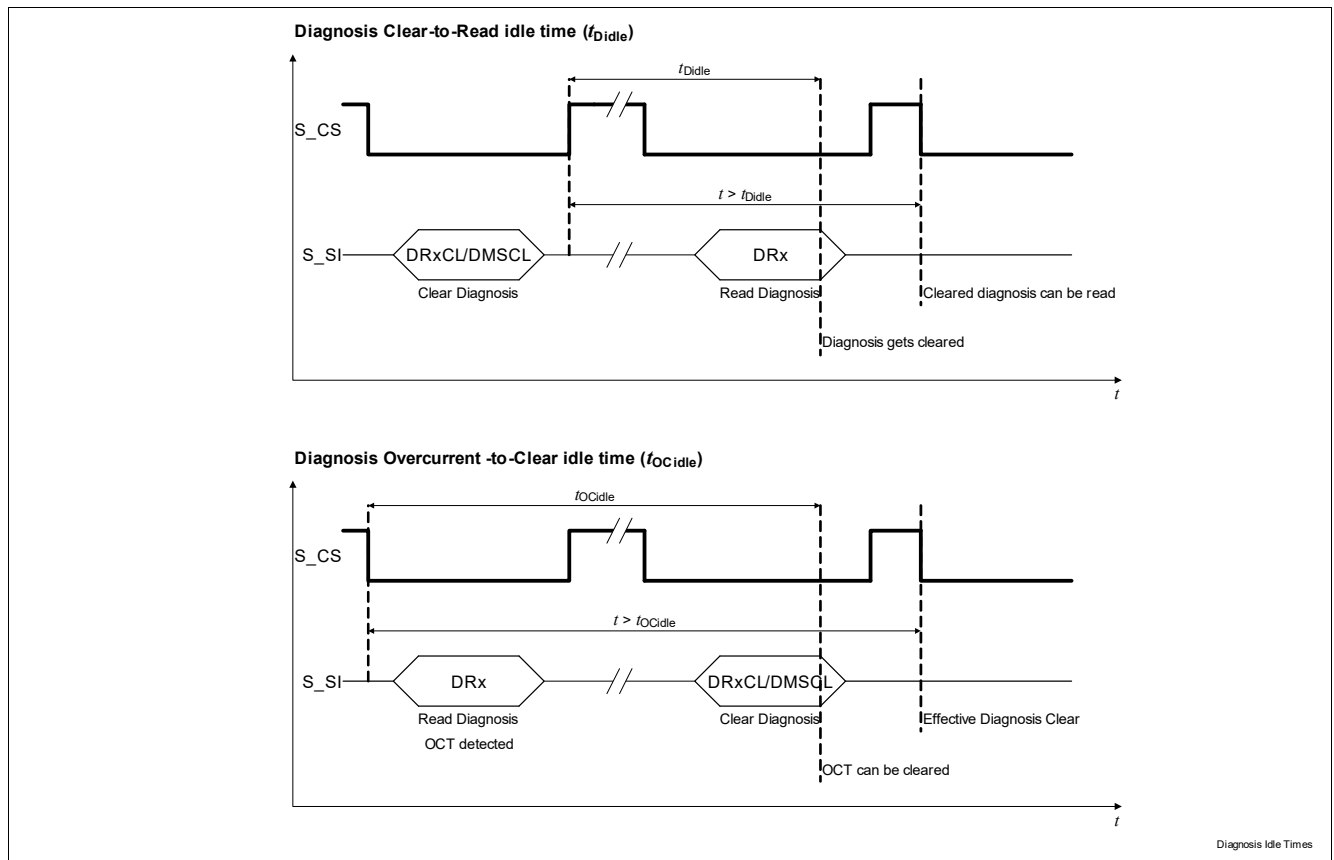

Figure 39 Diagnosis idle times
When issuing a Diagnosis Register Clear command (DRxCL or DMSCL), the idle time t_{Didle} needs to elapse, from the CS low-to-high transition of the clear command, before the register content is effectively cleared (Figure 39); This time has to be taken into account when trying to read the Diagnosis register content after a clear, see Chapter 11.3 for t_{Didle} definition.
After an overcurrent entry is stored in the diagnosis register (OC), the idle time t_{OCidle} needs to elapse before a clear command can effectively clear the entry; if trying to clear the Diagnosis register after an OCT entry is read (Figure 39), this time has to be taken into account starting from the CS high-to-low transition of the previous read command, see (Chapter 11.3) for t_{OCidle} definition.